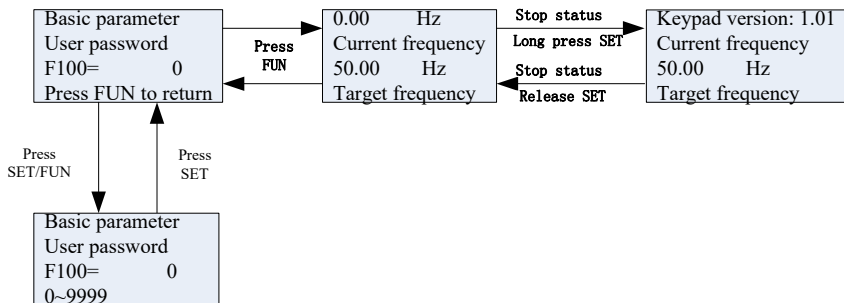

Fig 5-2 Operating flow chart of interface switch
- (1) Connect the wires in accordance with Figure 5-2. After having checked the wiring successfully, switch on the air switch, and power on the inverter;